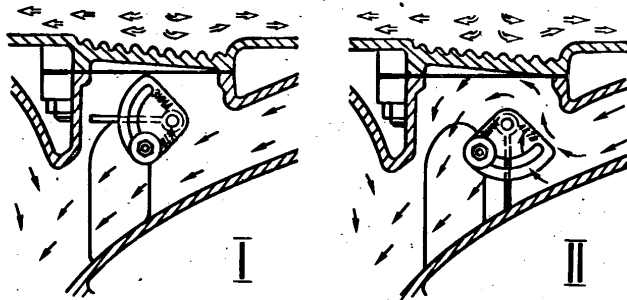

Fig. 32. Mixture Heat Control Valve:
6. At the seasonal services, set the mixture heat control valve in the position corresponding to the coming season (Fig. 32).